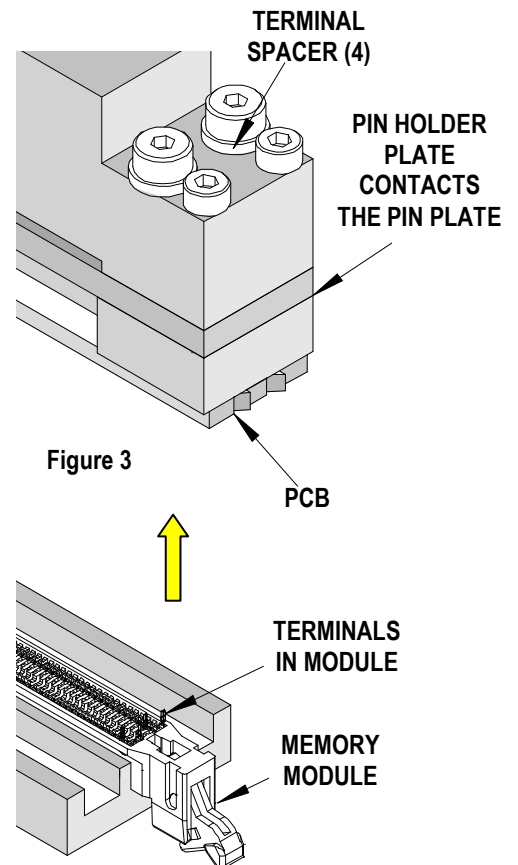

Figure 3
**Note:** When the printed circuit board thickness is thinner and the terminals are protruding through the printed circuit board, remove the Terminal Spacer (4) one at a time by removing the shoulder screw and sliding the spacer off. Replace the shoulder screw one at a time and tighten. (The Terminal Spacers can now be stored on the Pin Hold Down Plate using the (2) M4 holes with M4 button head screws.)
8. Lift the printed circuit board off from the Support Fixture. If the Memory Module is still on the printed circuit board remove by hand by lifting on the housing. See Figure 3.